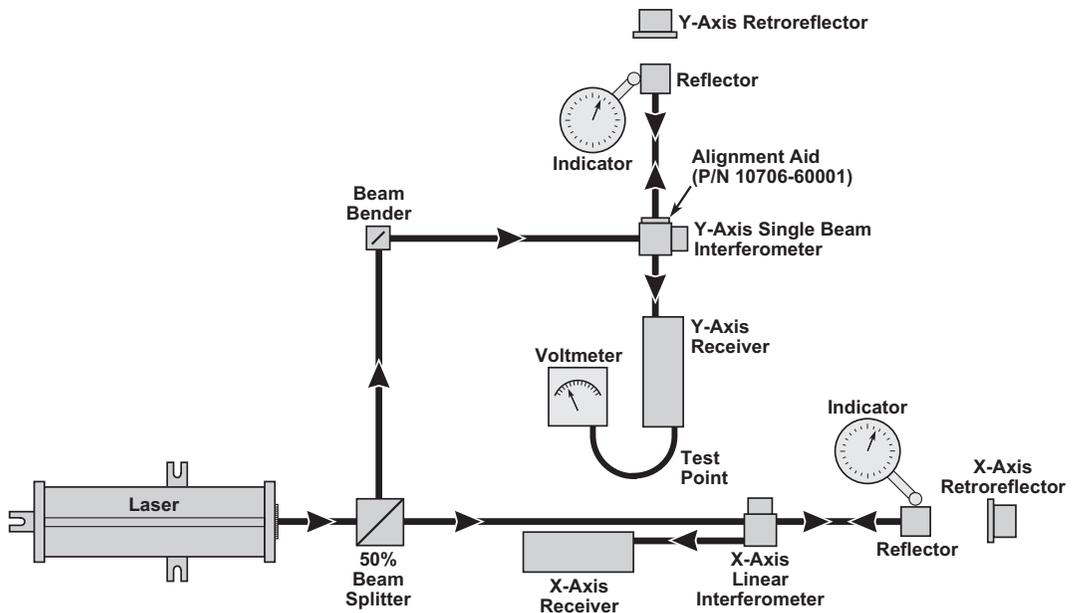

Figure 33 Autoreflexion alignment
Figure 33 shows a measurement setup similar to Figure 34(A) except that the referenced mirrors (true squares) are included.
- 3 Place a referenced mirror (true square) between the interferometer and retroreflector so that the measurement beam from the interferometer hits its reflective surface. See Figure 33.
Align the referenced mirror (true square) with a precision indicator until its reflective surface is perpendicular to the direction of travel. See Figure 33.